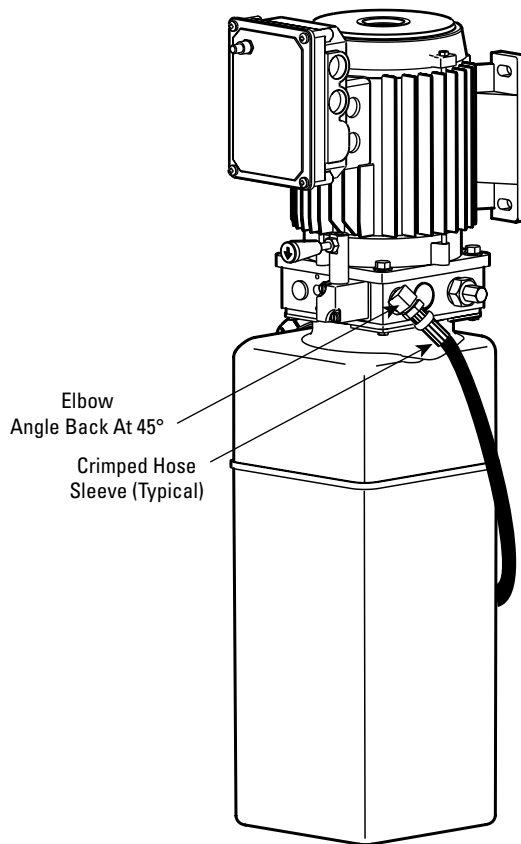
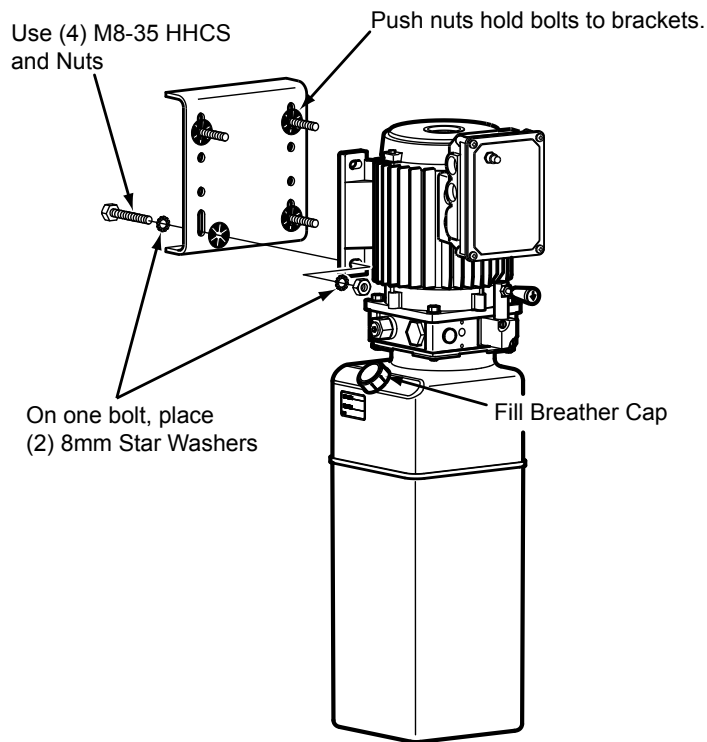
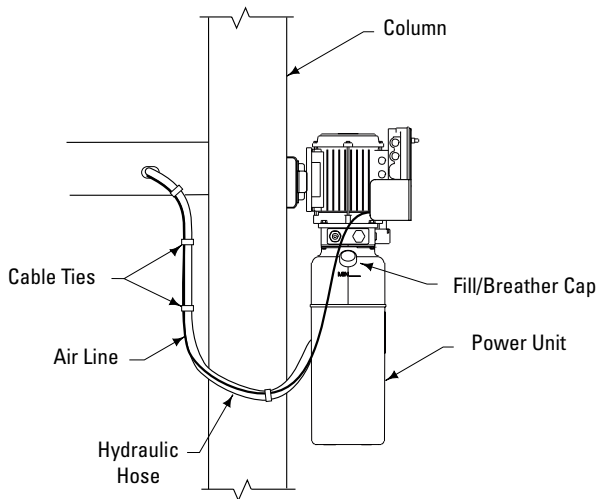

Fig. 17
Fig. 18
Fig. 19
- A. Put (4) M8-35 hex bolts through holes in column bracket using push nuts to hold in place.
- B. Mount power unit with motor up, Fig. 18 to column bracket and install lock washers and nuts. Run hydraulic hose from runway through slot in side of runway to power unit output port, Fig. 19. DO NOT use Teflon tape on hydraulic hose connections.
- C. Install and hand tighten elbow to pump until O-ring is seated and elbow should be oriented downward at approximately 45°, Fig. 17. Tighten locknut to 35-40 ft-lbs. (47-54 Nm). Install enclosed Capacity label on power unit, Fig. 18.
12. Hydraulic Fluid Filling: System capacity is fourteen (14) quarts. Use Dexron III ATF. Remove fill/breather, Fig. 19. Pour in thirteen (13) quarts of fluid. Replace fill/breather. Start motor and raise lift to full rise. Lower onto latches.
Note: If fill/breather, Fig. 19, is lost or broken, order replacement.
To pressure test, run lift to full rise and run motor for approximately 5 seconds. Stop and check all fittings and hose connections. Tighten or reseal if required. Lower lift. If fill/breather, Fig. 19, is lost or broken, order replacement.